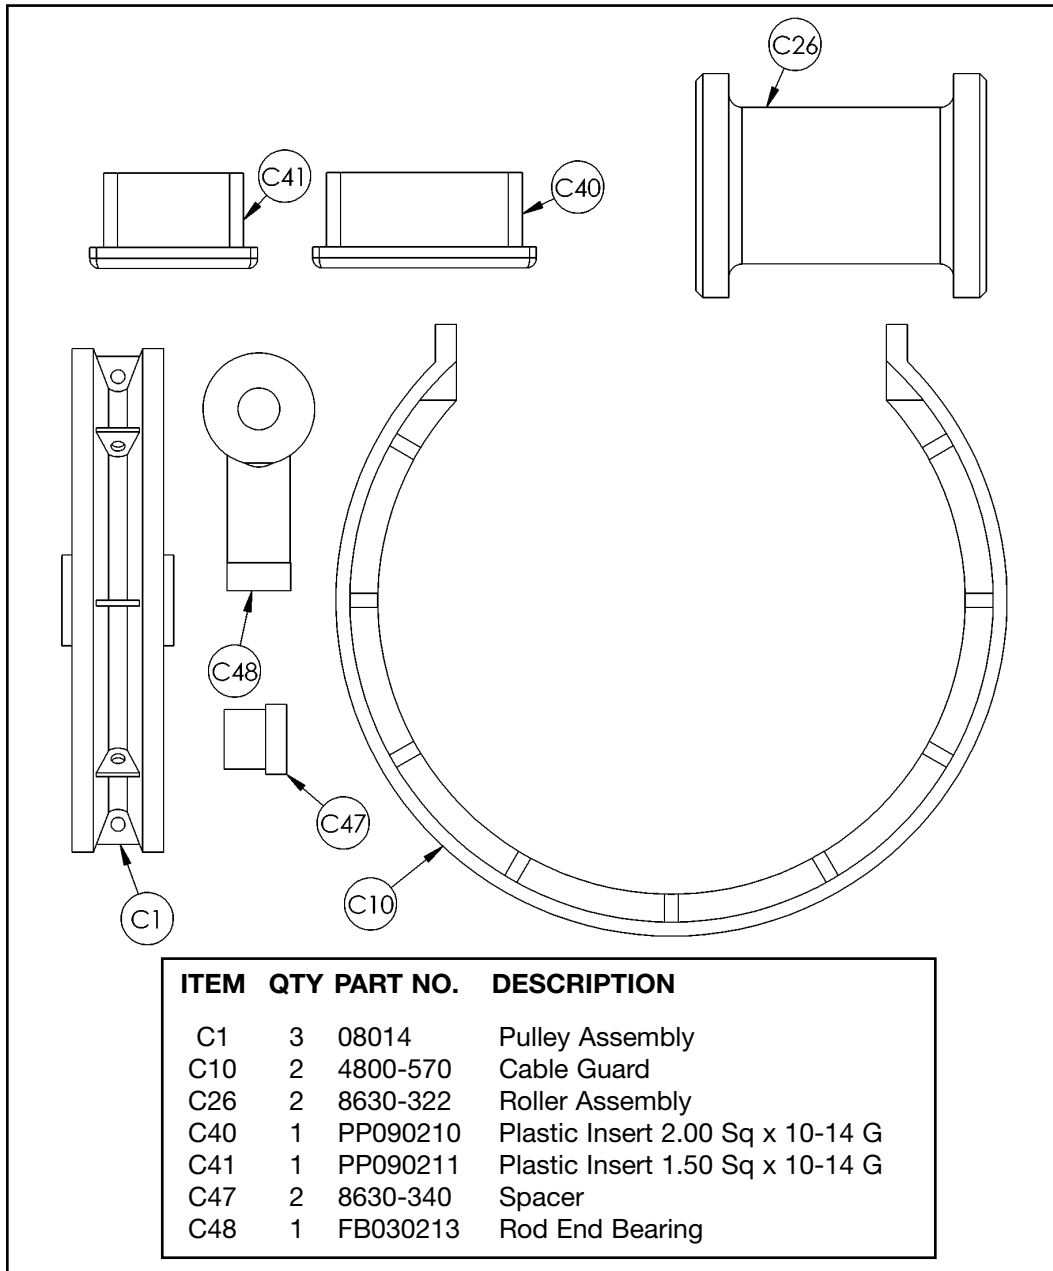

Figure 4
**2. Verify contents of the Leg Press Station hardware pack** (see steps 2A, 2B, Figures 4 and 5).
**B.** Verify contents of hardware pack. If desired, sort out hardware into different containers. Do not combine hardware with other hardware packs. Refer to Figures 4 and 5 for contents of hardware pack.